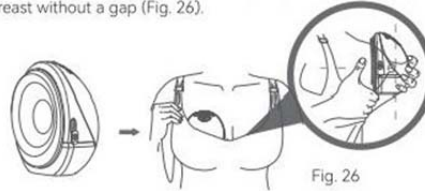

Fig. 26
- a. Before pumping, please make sure the pump is pressed tightly on your breast without a gap (Fig. 26).